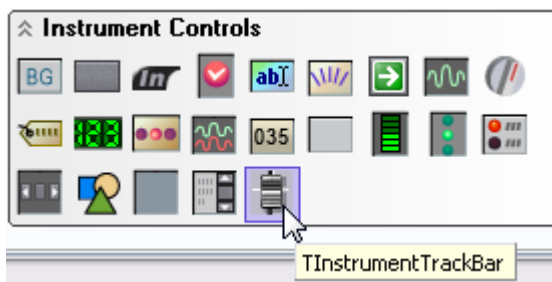

Figure 2. Place a TrackBar to control the rate of the LEDs.
10. The height will be controlled via a **TrackBar**, click to place one from the Instrument Controls section of the dialog (as shown in Figure 2), then click on the instrument face to place it. The new TrackBar can be dragged to re position it.